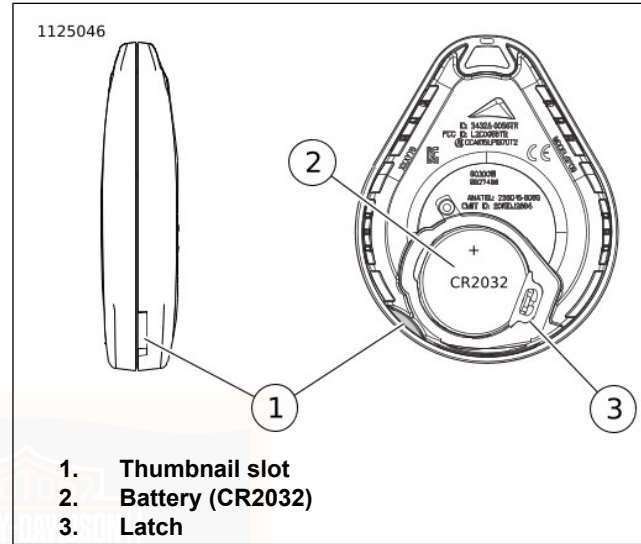

Figure 56. Replace Fob Battery
- a. See Figure 56. Place a thin blade in the thumbnail slot (1).